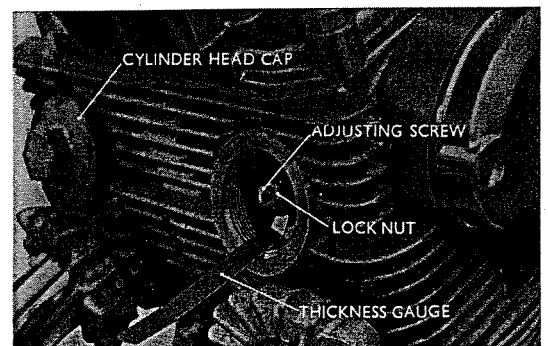

Fig. 3.32 Adjustment of tappet clearance
3. When the rocker arm has been disassembled and reassembled the tappet clearance (valve clearance) should be measured and adjusted. Adjustment should be performed at the position where the T mark of the A.C. generator rotor and the arrow mark of the stator are matched. (Compression top dead center). (Refer to Fig. 3.32)